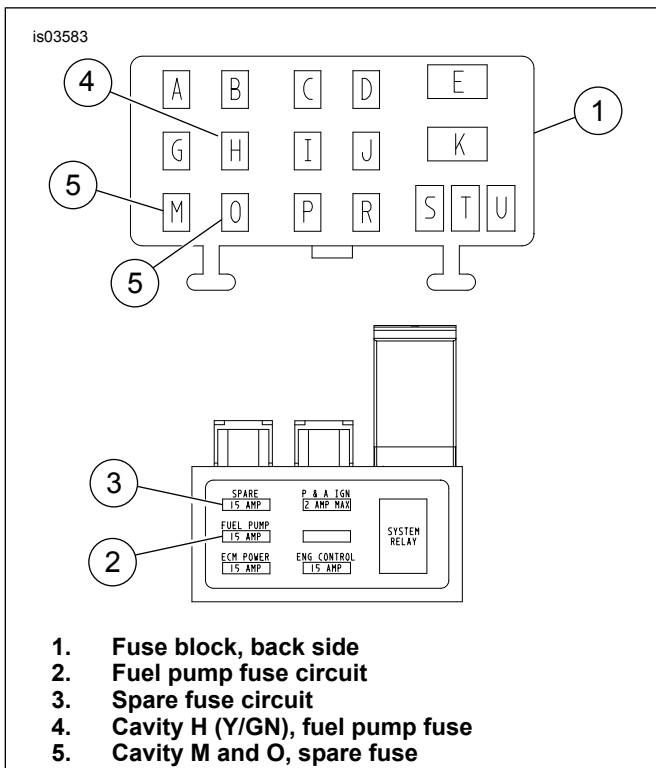

Figure 8. EFI Fuse Block (Stock)
7. See Figure 8. Remove fuel pump fuse (2) and spare fuse (3) from EFI fuse block.
8. Using terminal pick tool, remove fuel pump fuse (Y/GN) terminal wire from cavity H (4).
9. Remove and discard terminals wires from spare fuse cavities M and O (5).